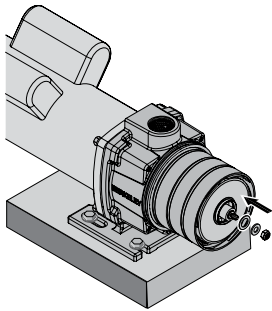

Figure 26
6. Reinstall the toothed washer, the flat washer, and the impeller nut (in that order - Ref. Nos. 12,13,14) onto the motor shaft (see Figure 26). Hold the shaft and tighten the impeller nut to 10 ft.-lbs. torque.